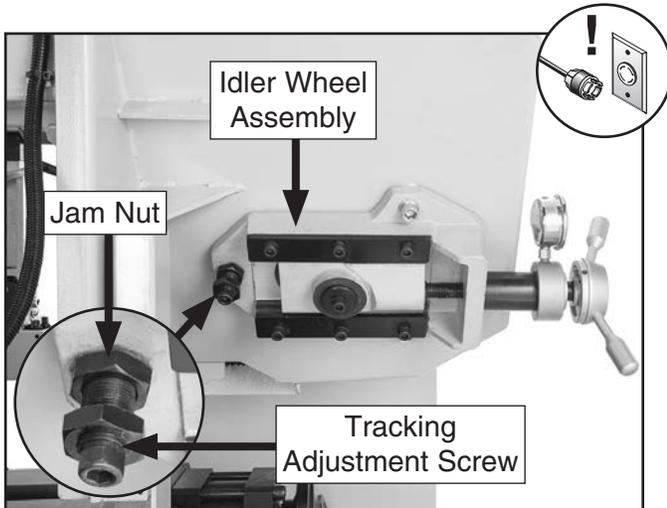

Figure 79. Blade tracking controls on idler wheel.
- Loosen jam nut on tracking adjustment screw (see **Figure 79**), then tighten or loosen tracking adjustment screw to move idler wheel assembly forward or backward.